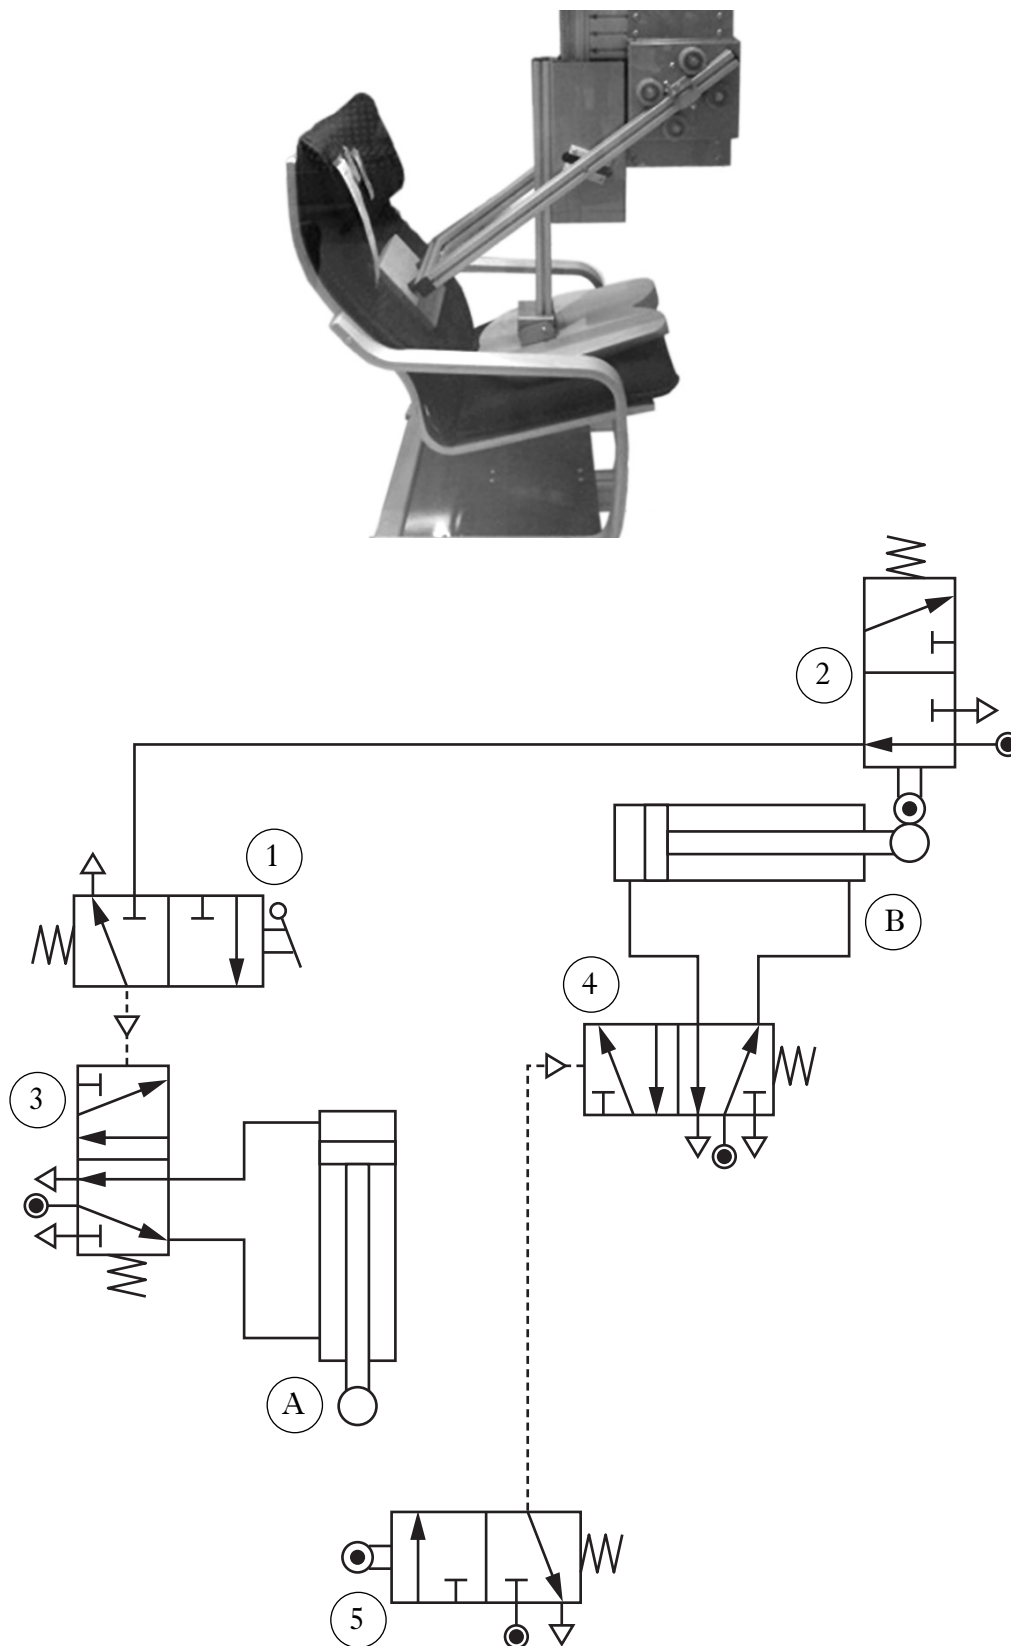

Figure Q8
8. The pneumatic circuit shown in Figure Q8 is used to test the life span of a chair.
- (b) Describe, with reference to Figure Q8, the operation of the pneumatic circuit.